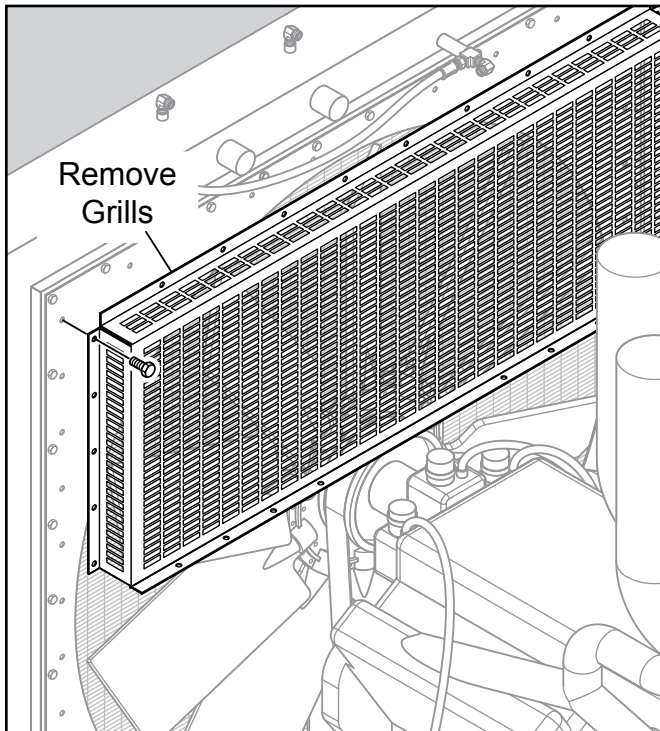

Figure 5. Removing Fan Grills
8. Remove the mounting hardware holding the three grills in place then remove grills (one on each side and one on top) covering the fan. See Figure 5.